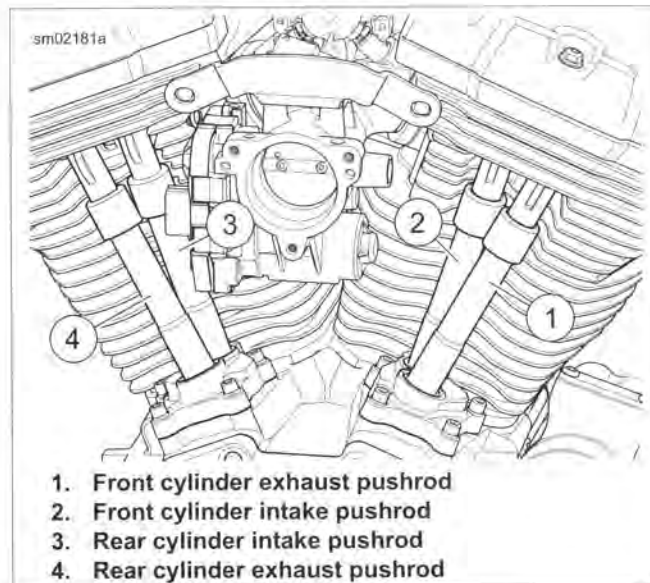

Figure 3-74. Pushrod Locations
8. See Figure 3-74. Install the pushrods. If installing original parts, install them in their original locations and orientation.